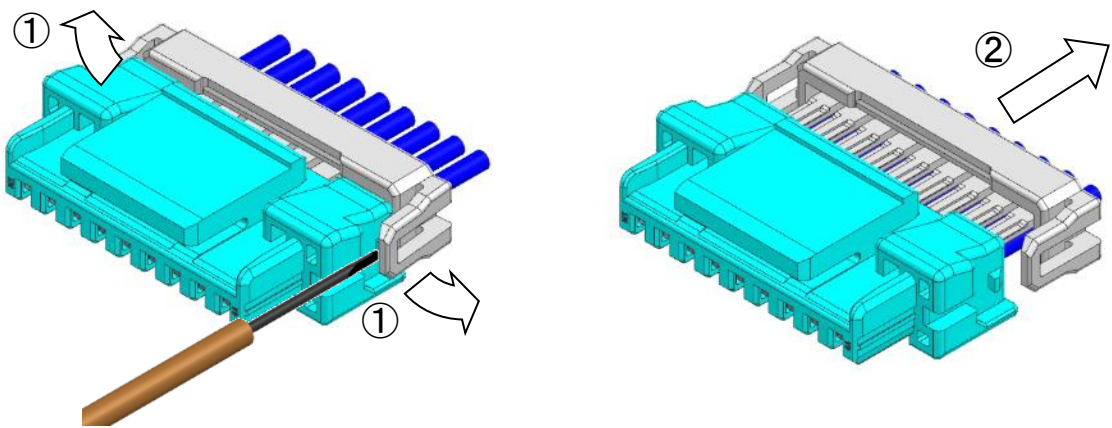

Fig.6-13
When removing an inserted retainer, ① lift the lock at both ends of the retainer using a flat blade screwdriver, and ② pull out the retainer. However, if the lock is widely lifted, plastic deformation will occur. The deformed locking part may not satisfy the specified strength due to the reduced terminal holding force. Therefore, **do not reuse removed retainer, use new retainer.** (Fig.6-13)